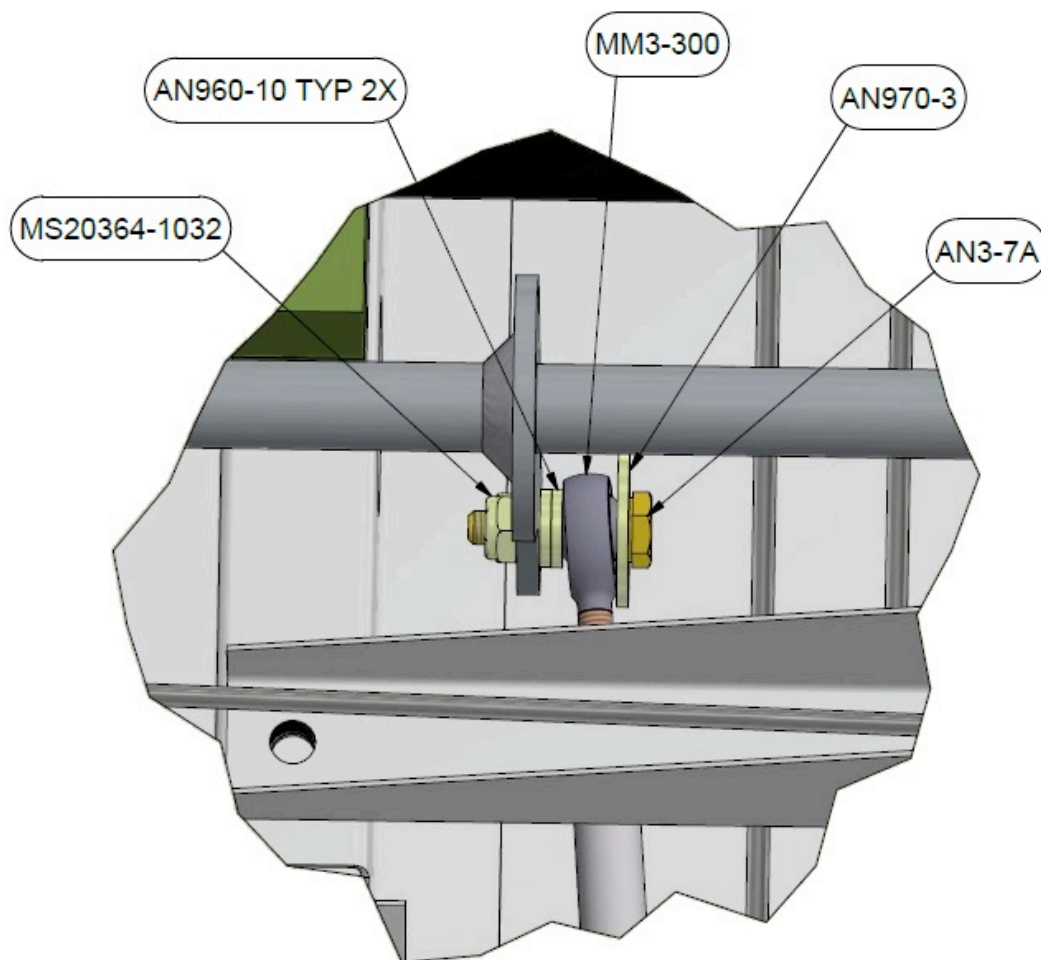

Figure 2-21
- 1.34. Attach the pitch pushrod assembly to the PA-32 bellcrank (P/N 7200-108) as shown in Figure 2-21.